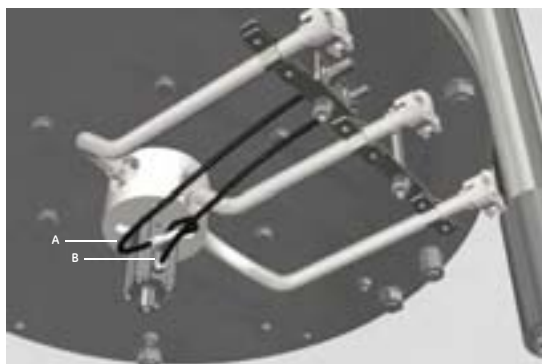

Figure 5.74: Pneumatic tubes **A** and **B**, the connection between the pneumatic cylinder and the tube holder.
- 3 Refit the pneumatic cylinder into the media valve outer body (see Figure 5.71 A). Ensure that the alignment of the pneumatic cylinder corresponds to Figure 5.74. Tighten the bolts (crosswise) in steps to 1.7 Nm.
- 8 Refit the two pneumatic tubes on the pneumatic cylinder according to Figure 5.74. Ensure that the 2 tubes are connected to the correct connectors.